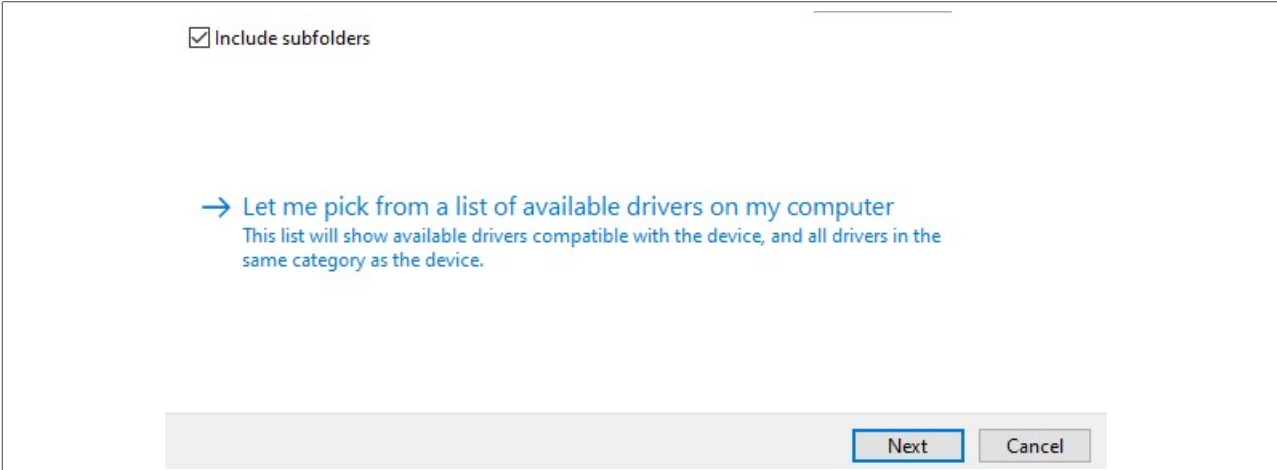

Figure 19. Let me pick from a list of available drivers on my computer
3. Click: "Let me pick from a list of available drivers on my computer" (see Figure 19).